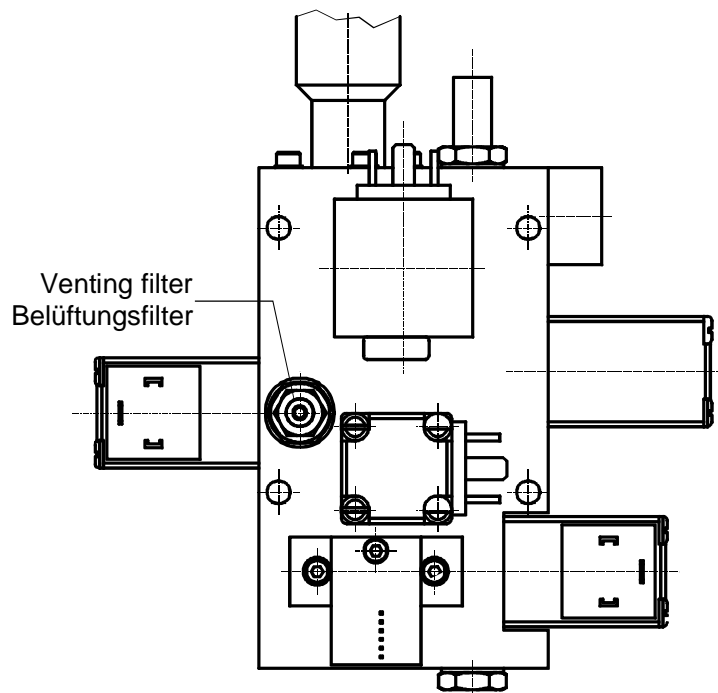

Fig. 23
- With a fork wrench size 12 unfasten the hose coupling on the valve block and pull the hose off the nipple (→ Fig. 23).